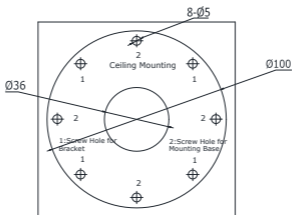

Figure 2-5 Drilling Holes in the Wall/Ceiling
1. Attach the drill template (supplied) to the wall where the camera is to be mounted and drill holes in the wall according to hole 2 on the drill template. See Figure 2.5.